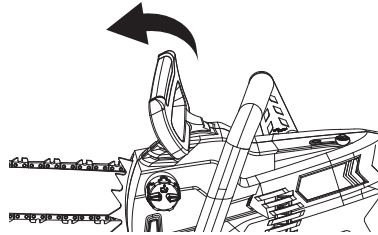

Fig. 18
The chain brake (2) in the engaged position, the saw chain is stopped as soon as the chain brake is activated (Fig. 18).